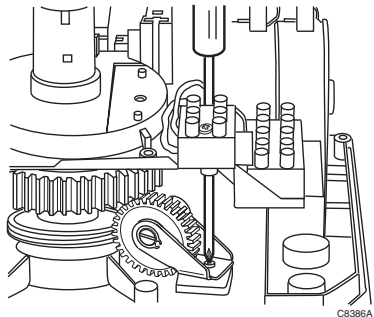

Fig. 3. Securing potentiometer.
4. Secure potentiometer with Phillips screwdriver through hole in actuator bracket. See Fig. 3.